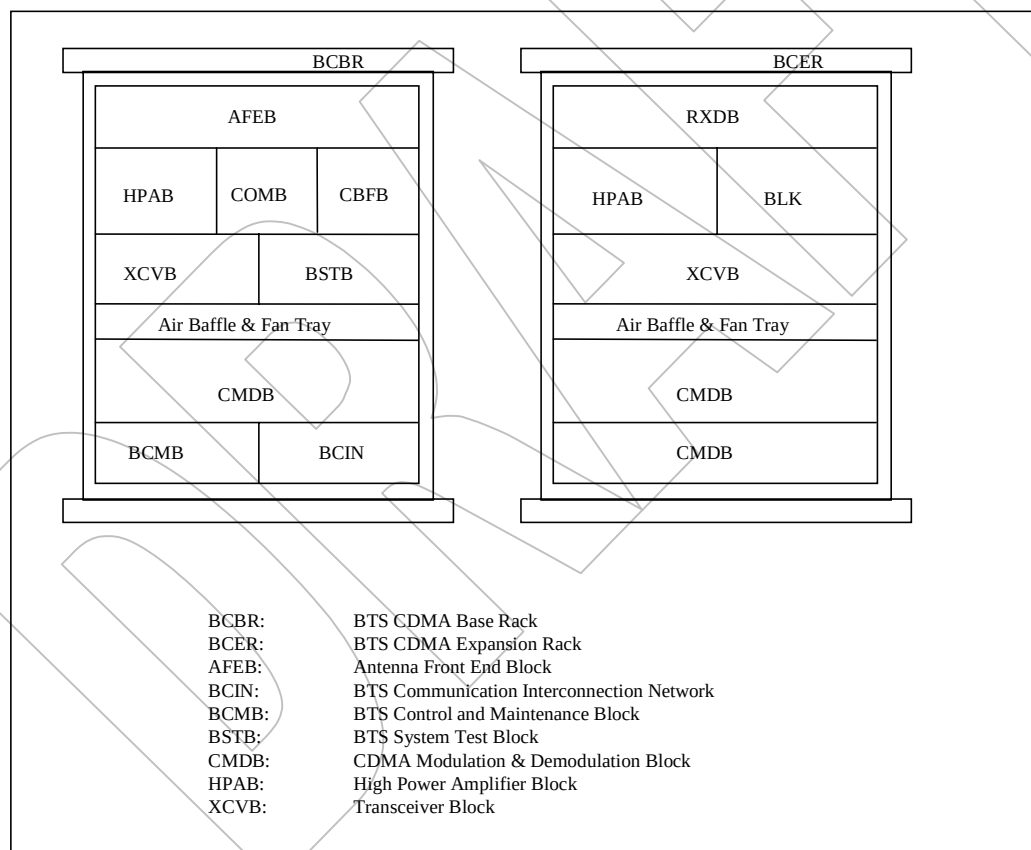

Figure 2.3 Maximum Rack Configuration for Samsung Omni BTS
- Figures 2.3 and 2.4 show the maximum rack configuration for Samsung omni and three sector BTSS.